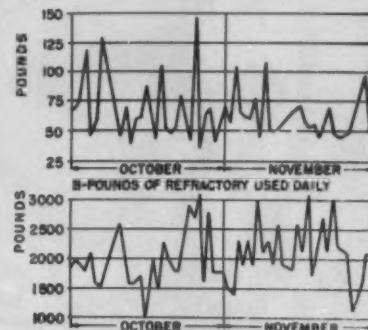

Fig. 3 Refractory consumption.
5. Amount of refractory material used per day in terms of metal poured (Fig. 3).